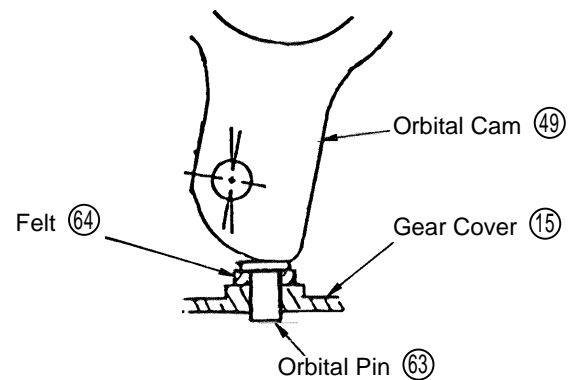

Fig. 18
- (5) During reassembly, be very careful not to forget to install the Orbital Pin (63) and the Felt (64) at the lower portion of the Orbital Cam (49), as shown in Fig. 18.